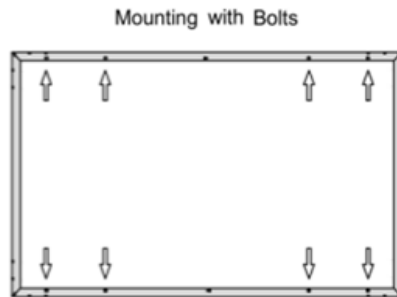

Figure 14: 8 Mounting holes on the back frame of modules SPVxxx-R60DWMG-2M2C01 / SPVxxx-R60DBMG-2M2C01
2. If the rails do not have holes compatible with bolt holes on the frame of the modules, suitable holes should be drilled for securing the modules to the rails (See *Figure 14*).